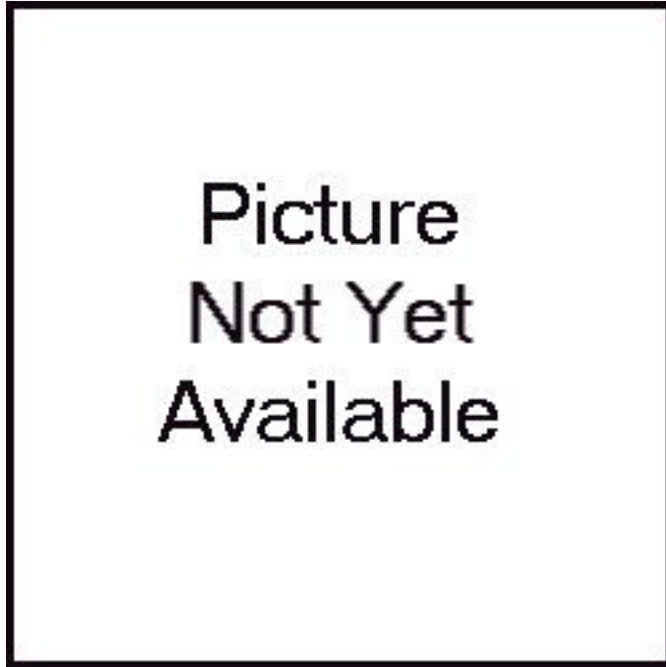
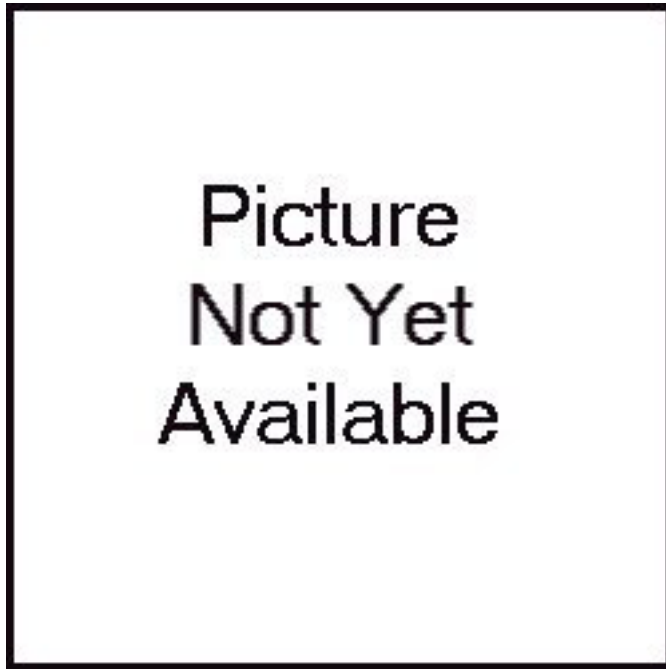

Figure 9 - Water Drain Channel
Figure 10 - Drain Holes
2.4 Water Channel. Clean any debris from the water drain channel (Figure 9) at the lower rear window mounting surface. Ensure that the drain holes (Figure 10) at the edges are clear and the drain tubes for the rear deck vents are not clogged or damaged.